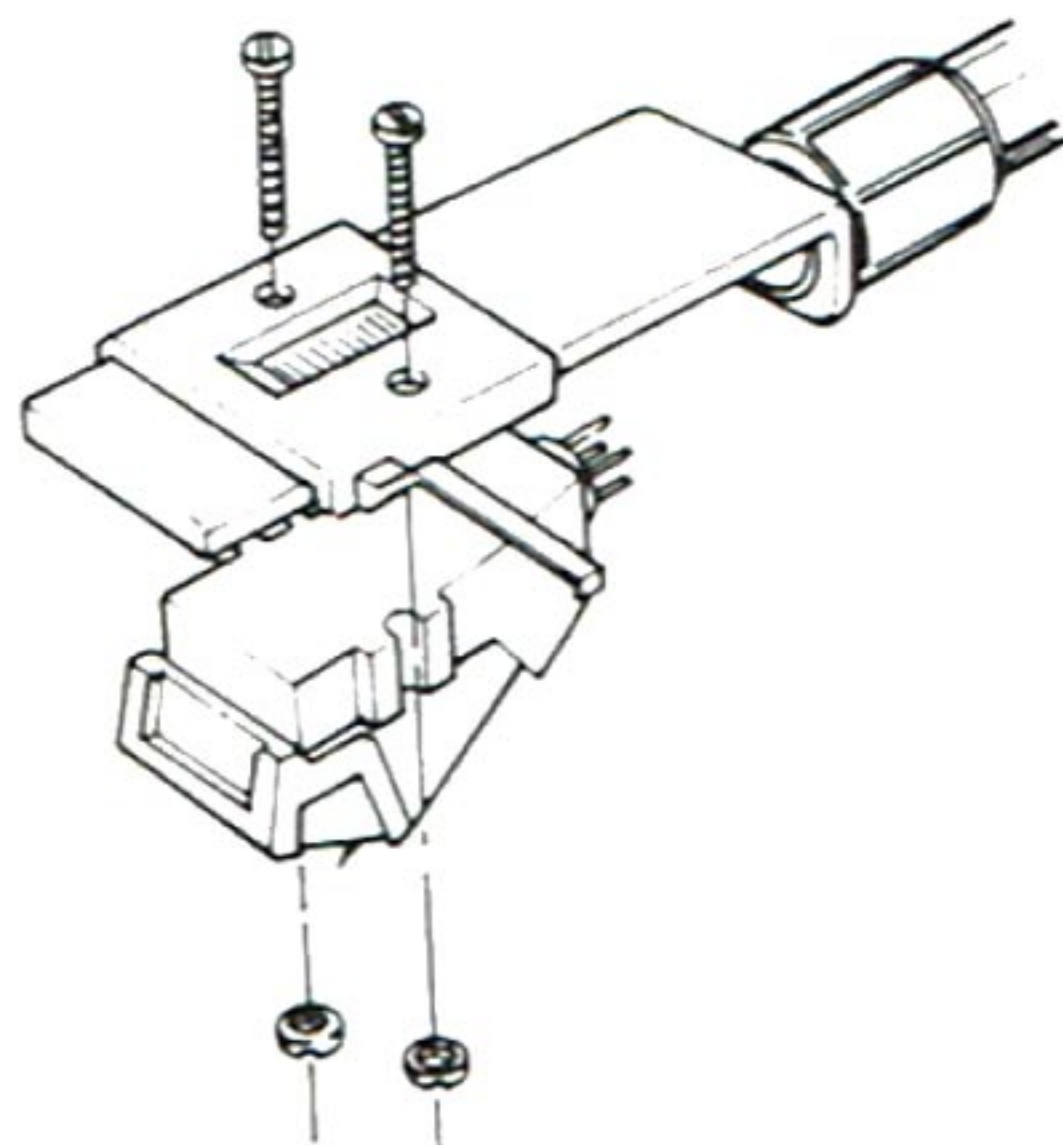

Fig. 2
- 1. Attach the cartridge to the cartridge shell lightly, using screws and nuts (Fig. 2).